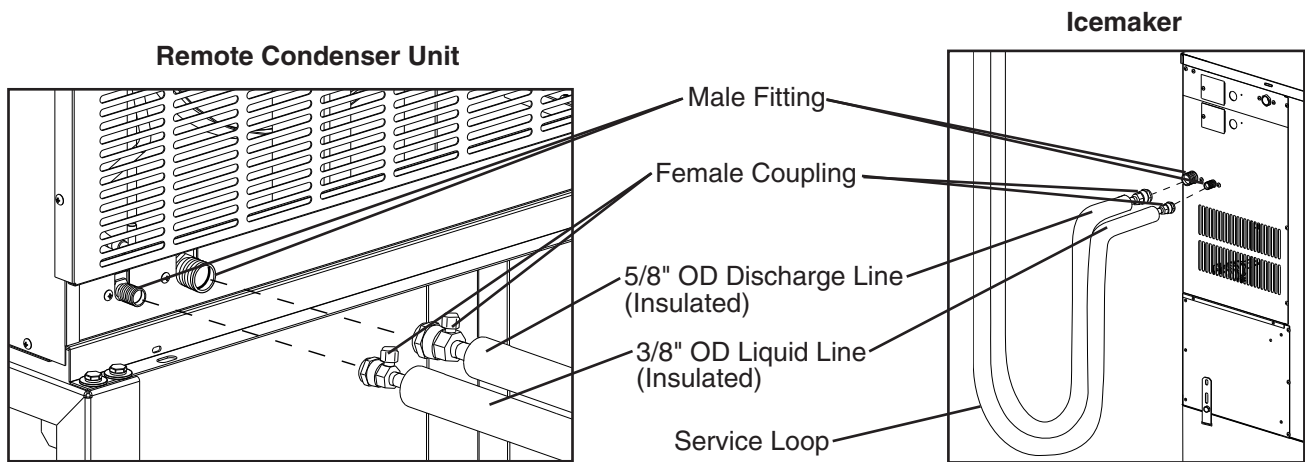

Fig. 11
- 1) Route the factory line set (5/8" OD discharge line and 3/8" OD liquid line) from the remote condenser unit to the icemaker. Leave a service loop behind the icemaker to allow the icemaker to be pulled out for service. See Fig. 11. Factory fabricated line sets are precharged and do not need to be evacuated.
- 1) Route a 5/8" OD copper tube discharge line and a 3/8" OD copper tube liquid line between the remote condenser unit and the icemaker. Leave a service loop behind the icemaker to allow the icemaker to be pulled out for service. See Fig. 11.